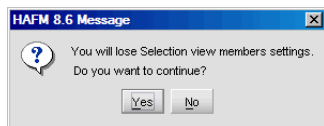

Figure 38 HAFM 8.6 Message
3. If you select **Include Assets via All** after you first selected **Include Assets via Selection** you receive a message (see Figure 38).